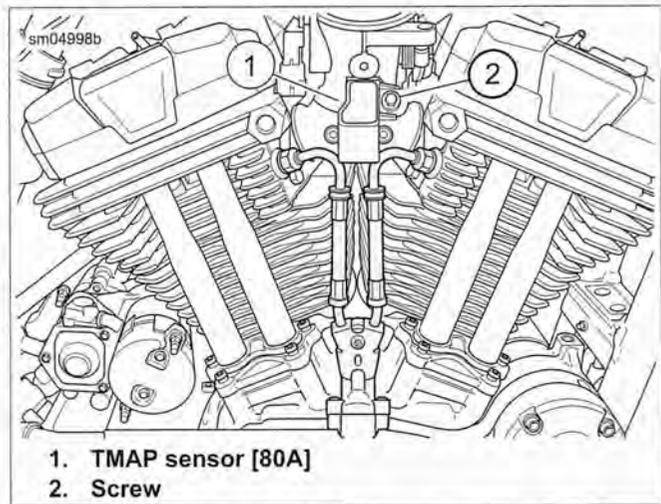

Figure 4-60. TMAP Sensor: XR 1200X
2. Remove socket head bolts (3) and the wire form (1) and induction module fastener (2).
5. See Figure 4-60. Remove screw (2).
6. Grasp TMAP sensor (1) and with a gentle twisting motion, pull sensor straight up out of induction module body.